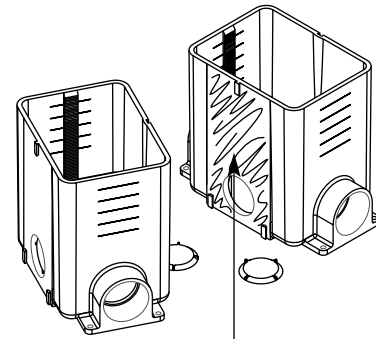

Figure 1
2. For multiple compartment installations which require pass-through between mating modules, you must remove the knockout section on adjacent surfaces. To do this, break away with a hammer making sure you remove knockouts which will be facing one another after linking the assembly (see Figure 1). **Knockout tabs are intended for passage between boxes only. They are not designed for the attachment of conduit fittings.**
3. To assemble the modular units, first apply solvent cement around the flat mating surfaces of the adjacent walls and “dovetail” slots (see Figure 1). Engage the “dovetails” and slide the units together until seated (see Figure 2).